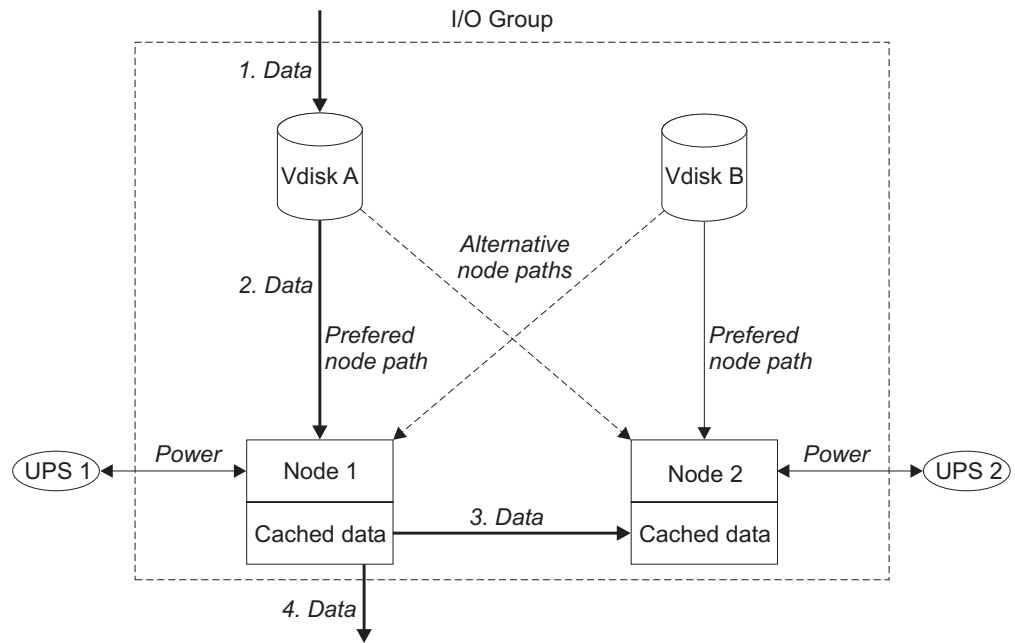

Figure 8. I/O group and uninterruptible power supply
Figure 8 on page 41 shows an example I/O group. A write operation from a host is shown (item 1), that is targeted for virtual disk A. This write is targeted at the preferred node, Node 1 (item 2). The write is cached and a copy of the data is made in the partner node, Node 2's cache (item 3). The write is now complete so far as the host is concerned. At some time later the data is written, or destaged, to storage (item 4). The figure also shows two uninterruptible power supply units (1 and 2) correctly configured so that each node is in a different power domain.